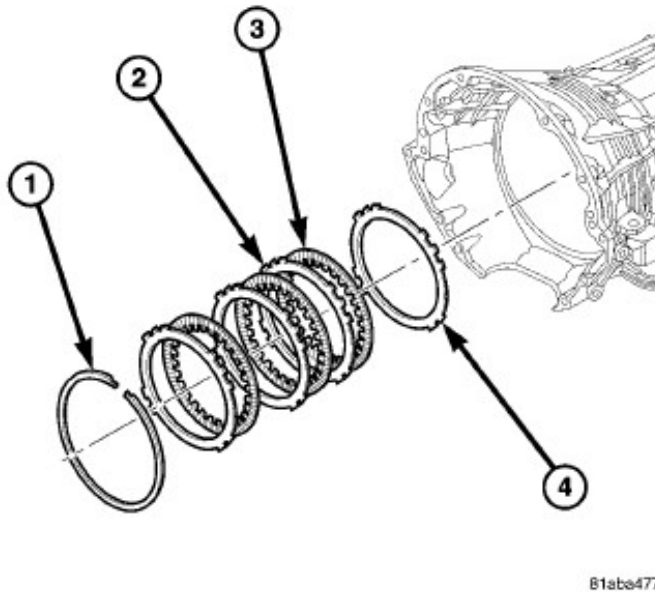

Fig. 14
26. Install the 2C reaction plate Fig. 14.
- 27. Install the 2C clutch pack into the transmission case Fig. 14.
- 28. Install the flat 2C/4C clutch snap-ring into the transmission case Fig. 14.